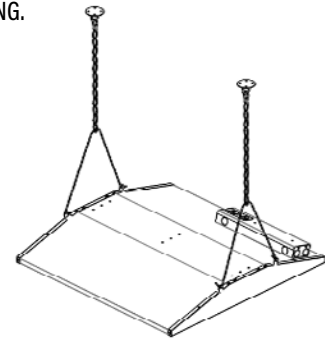

Fig. 5
1. Secure ceiling plates into the ceiling by using expansion anchors and self-tapping screws. (Fig. 5)